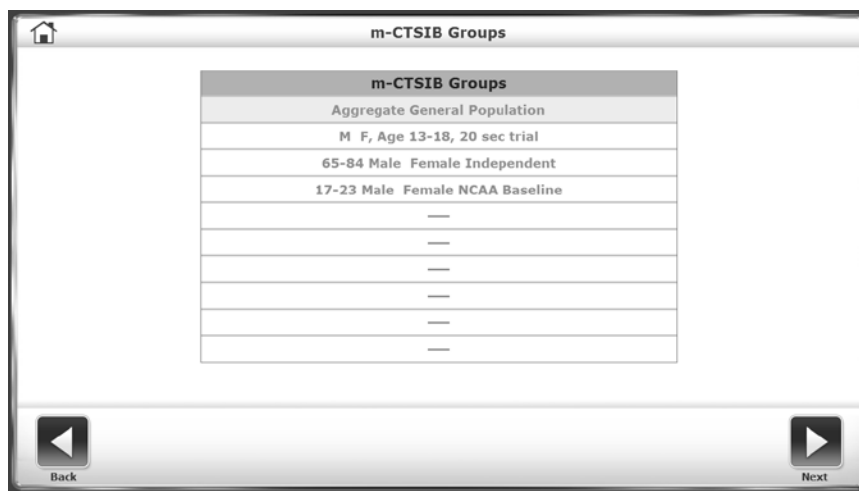

Figure 7.9. Selecting a Data Set for a Progress Report.
- For Normative Data, select a specific data set, and then touch <Next> (see Figure 7.9).